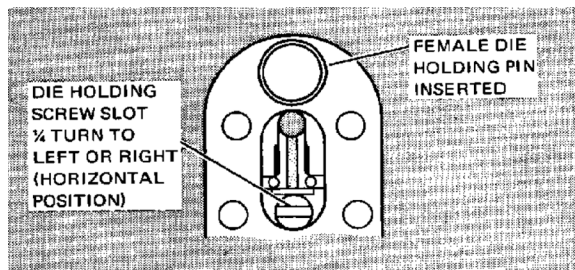

Figure 5
up with the hole in the insert. Insert the female die holding pin. See Figure 5.
7. Turn male die holding screw slot 1/4 turn to left or right. (horizontal position) See Figure 5.
in tool. Insert female die holding pin. See Figure 5.